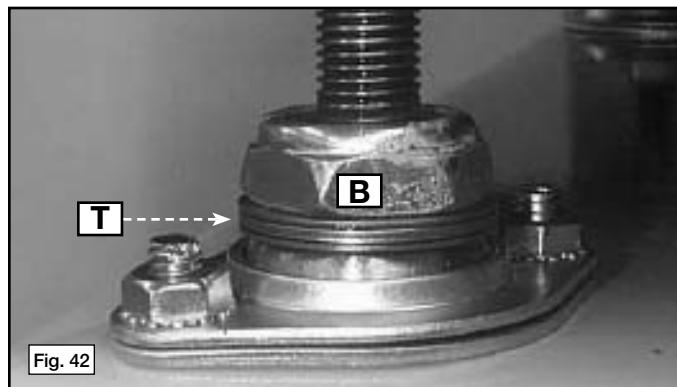

Fig. 42
1. A 3/4" (19 mm) locknut is on the base of three of the elevating bolts (B) Fig. 42. Under this nut is a thrust washer, thrust bearing, and another thrust washer (T) Fig. 42.